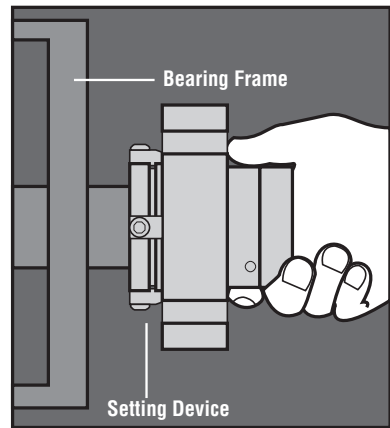

Figure 2
- 2.3 **Slide the ISC2 seal cartridge** onto the shaft or pump sleeve with the setting devices toward the bearing housing. See Figure 2.